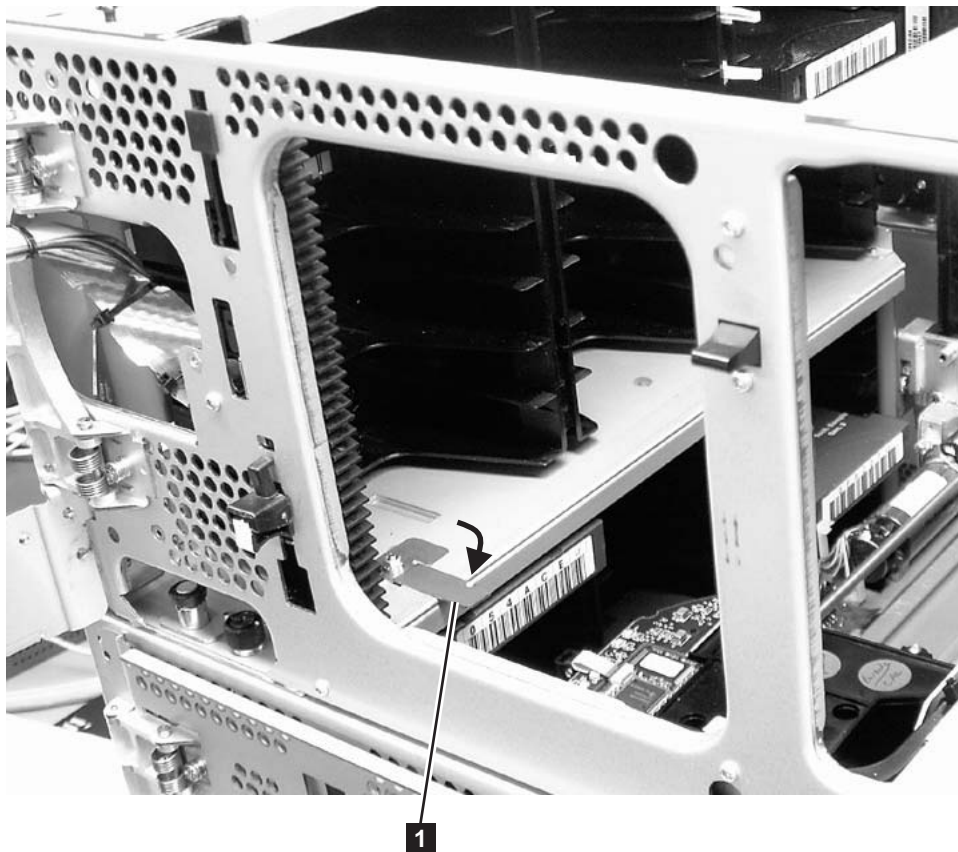

Figure 3-8. Picker locking mechanism
1. Engage the picker assembly lock mechanism (**1** in Figure 3-8). You may need to lift the picker assembly to fully engage the lock mechanism.